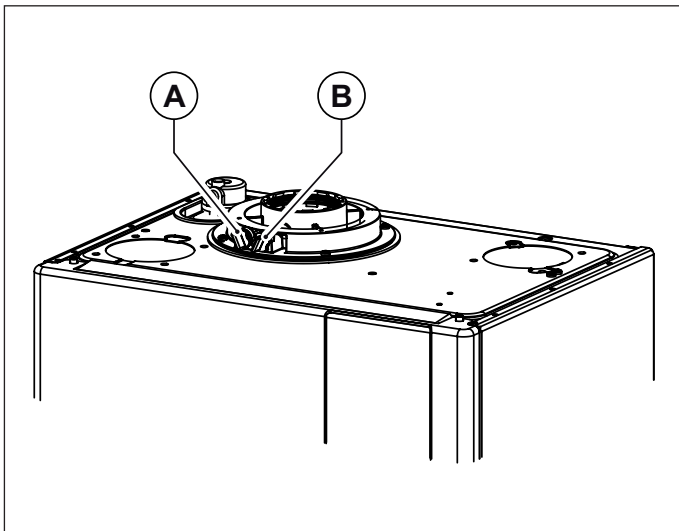
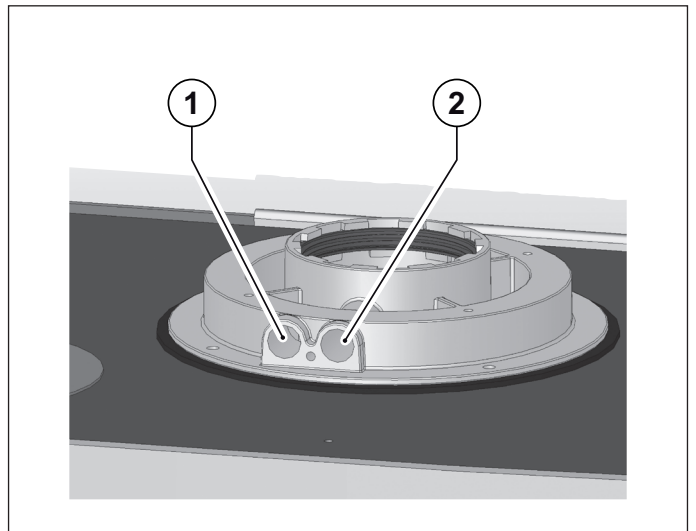

Fig. 15 Plugs position
Fig. 16 Hole position
The boiler is equipped with a tower allowing for air intake/flue gas venting pipe connection (see Fig. 15 Plugs position and Fig. 16 Hole position).
The tower is designed with two pre-arranged openings directly accessing air and flue gas ducts (see Fig. 15 Plugs position).
Remove caps **A** and **B** from the pre-arranged openings on the tower, before starting combustion checking procedure (see. Fig. 15 Plugs position).
- assess combustion air from opening **1** (see Fig. 16 Hole position).
- assess flue gas temperature and CO₂ from opening **2** (see Fig. 16 Hole position).